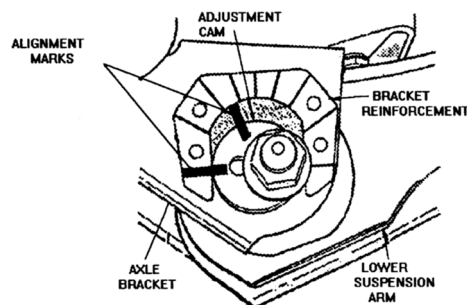

Figure 2
5. 1997 model TJ only: Mark the position of the alignment cam adjusters located at the end of each front lower control arm at the axle (Figure 2).